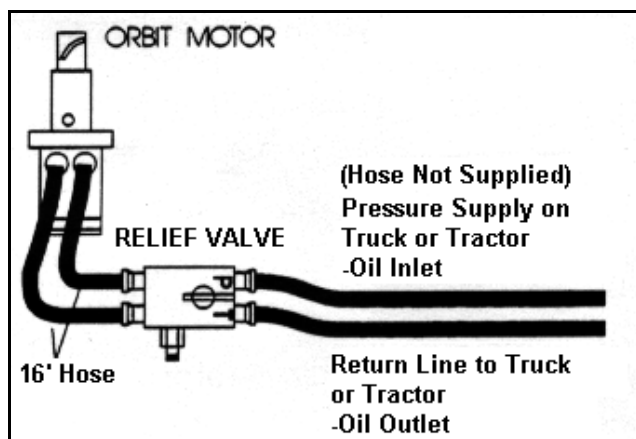

Figure 1.2 Schematic Drawing
Note: System requires a minimum hydraulic source of 8 gpm at 1200 psi (see Figure 1.2 and 1.3).
1. The “P” on the relief valve must be connected to the “out” side of the pump (see Figure 1.2 and 1.3) or directly to the “Pressure” source if using a remote hydraulic source.